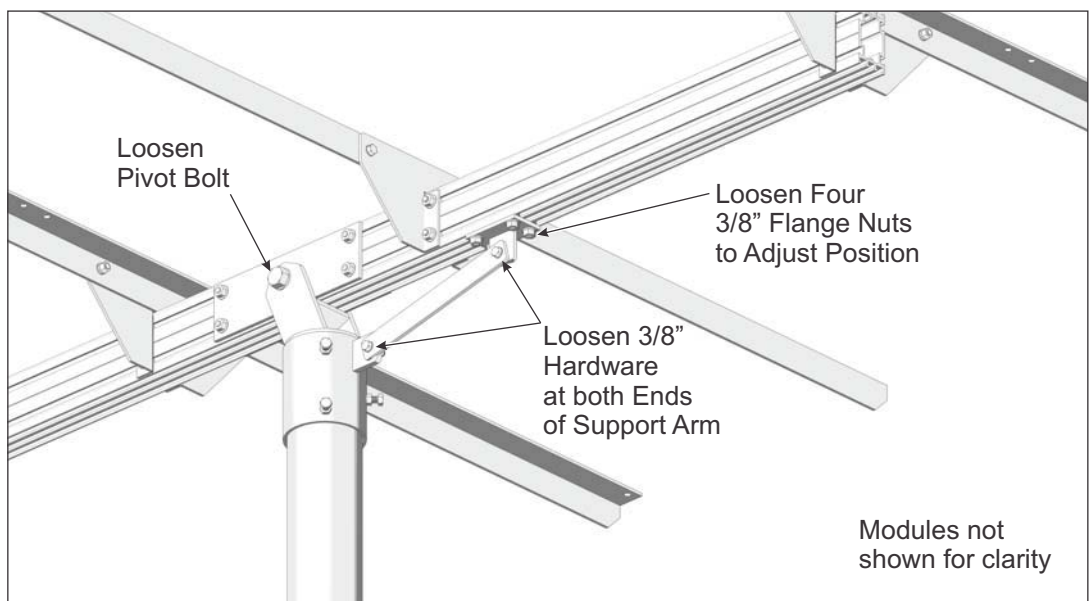

Figure 8-1: Adjusting Tilt Angle
- B. Tilt the rack to the desired elevation angle and re-tighten the 3/8” Flange Nuts securing the Mounting Tab to the Strongback and the 3/8” hardware at both ends of the Support Bar at the Support Bar Mounting Tab of the Strongback and the Pivot Tab of the Mounting Sleeve **Torque the 3/8” Flange Nuts to 32-34 ft.-lbs. and the 3/8” hardware to 32-34 ft.-lbs.** (See Figure 8-1)